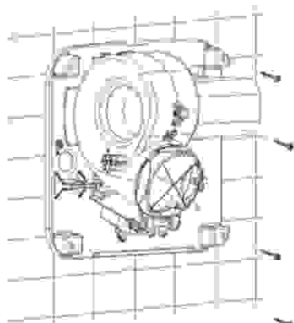

Fig.7
3. Screw in the four supplied screws to firmly secure the base of the dryer to the wall (see figure 7).